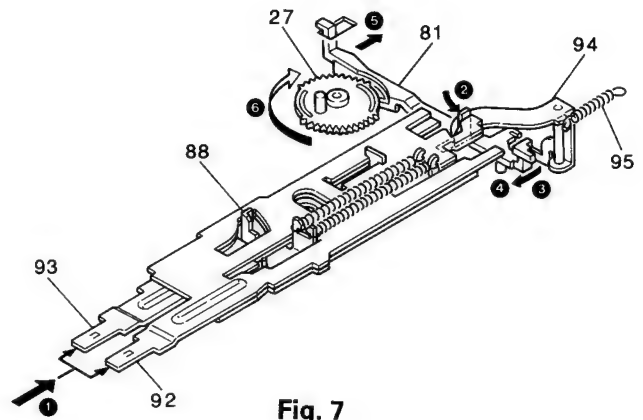

Fig. 7
1. When pressing FF/REW (92 and 93) levers at the same time ( **1** ), the levers are placed into a slot on the PC (Play Change) plate (94) in direction of arrow ( **2** ) in Fig.7.
2. The PC plate (94) moves in the direction of arrow ( **3** ), trigger arm (81) is kicked in the direction of arrows ( **4** ) and ( **5** ), thereby releasing the turn-over gear (27).
3. The turn-over gear (27) is rotated in the direction of arrow ( **6** ) by ED (End Detector) gear (26), which moves main plate (64).